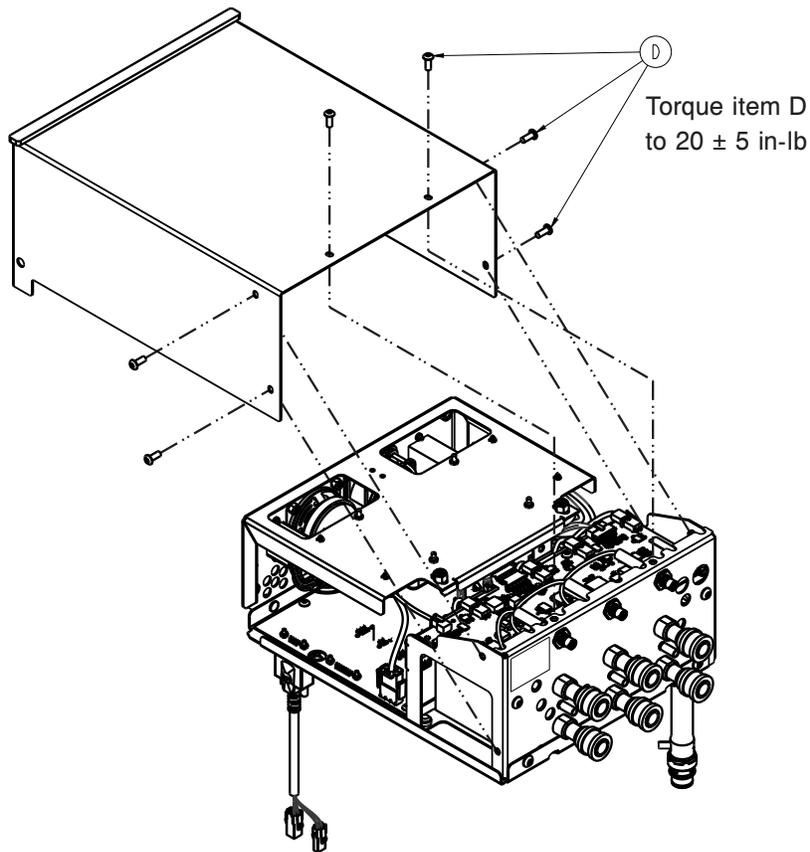

Figure 34 – Control box cover
5. Using a T25 Torx driver, remove the six screws (D) that from the control box cover (Figure 34). Save the screws.